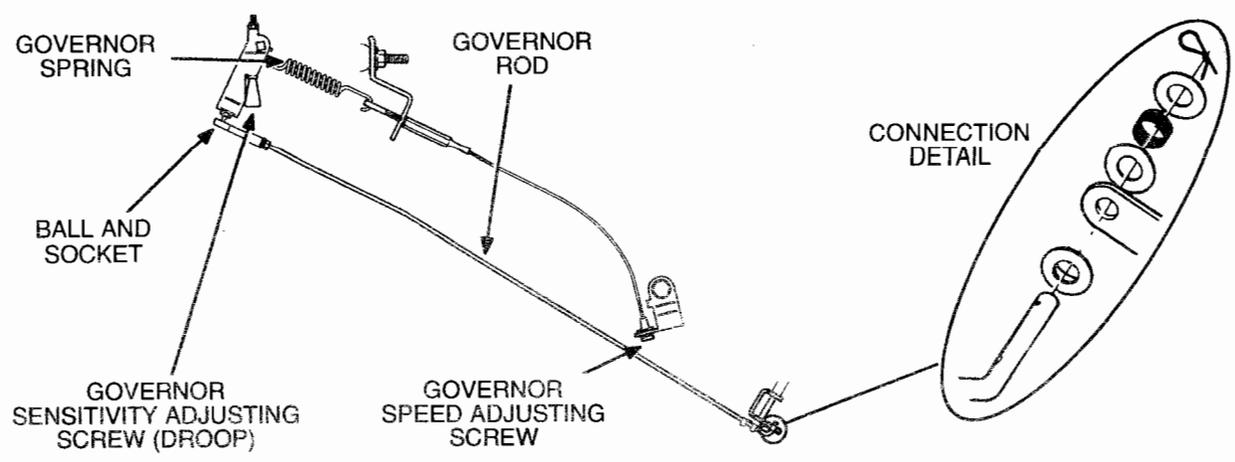

FIGURE 6-13. MECHANICAL GOVERNOR (SPEC A ONLY)
Mechanical governor speed and sensitivity set points are adjustable. The governor and linkage (Figure 6-13) are accessible through an access cover in the panel. The following adjustments must be made in the sequence that they appear.
Governor Rod Length Adjustment: The length of the governor rod (Figure 6-13) must be checked and adjusted as follows before other adjustments are attempted:
- A. If droop (from no-load frequency) is more than 3 Hz for Model BGM or 4 Hz for Model NHD, turn the governor sensitivity adjusting screw (Figure 6-13) one turn counterclockwise. Disconnect the load and, if necessary, readjust the governor speed adjusting screw to return to 62-63 Hz no-load frequency. Check droop again and repeat the adjustments, if necessary.
- B. If droop (from no-load frequency) is less than 2 Hz for Model BGM or 3 Hz for Model NHM, turn the governor sensitivity adjusting screw (Figure 6-13) one turn clockwise. Disconnect the load and, if necessary, readjust the governor speed adjusting screw to return to 62-63 Hz no-load frequency. Check droop again and repeat the adjustments, if necessary.